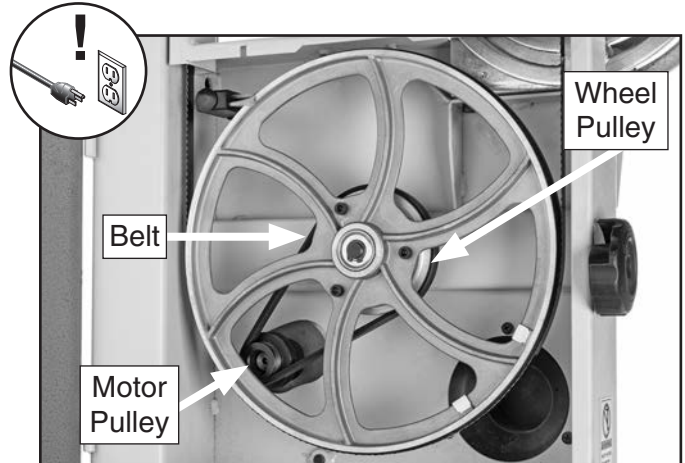

Figure 49. Location of belt and pulleys.
3. Open lower wheel cover to reveal motor pulley, wheel pulley, and V-belt (see **Figure 49**).